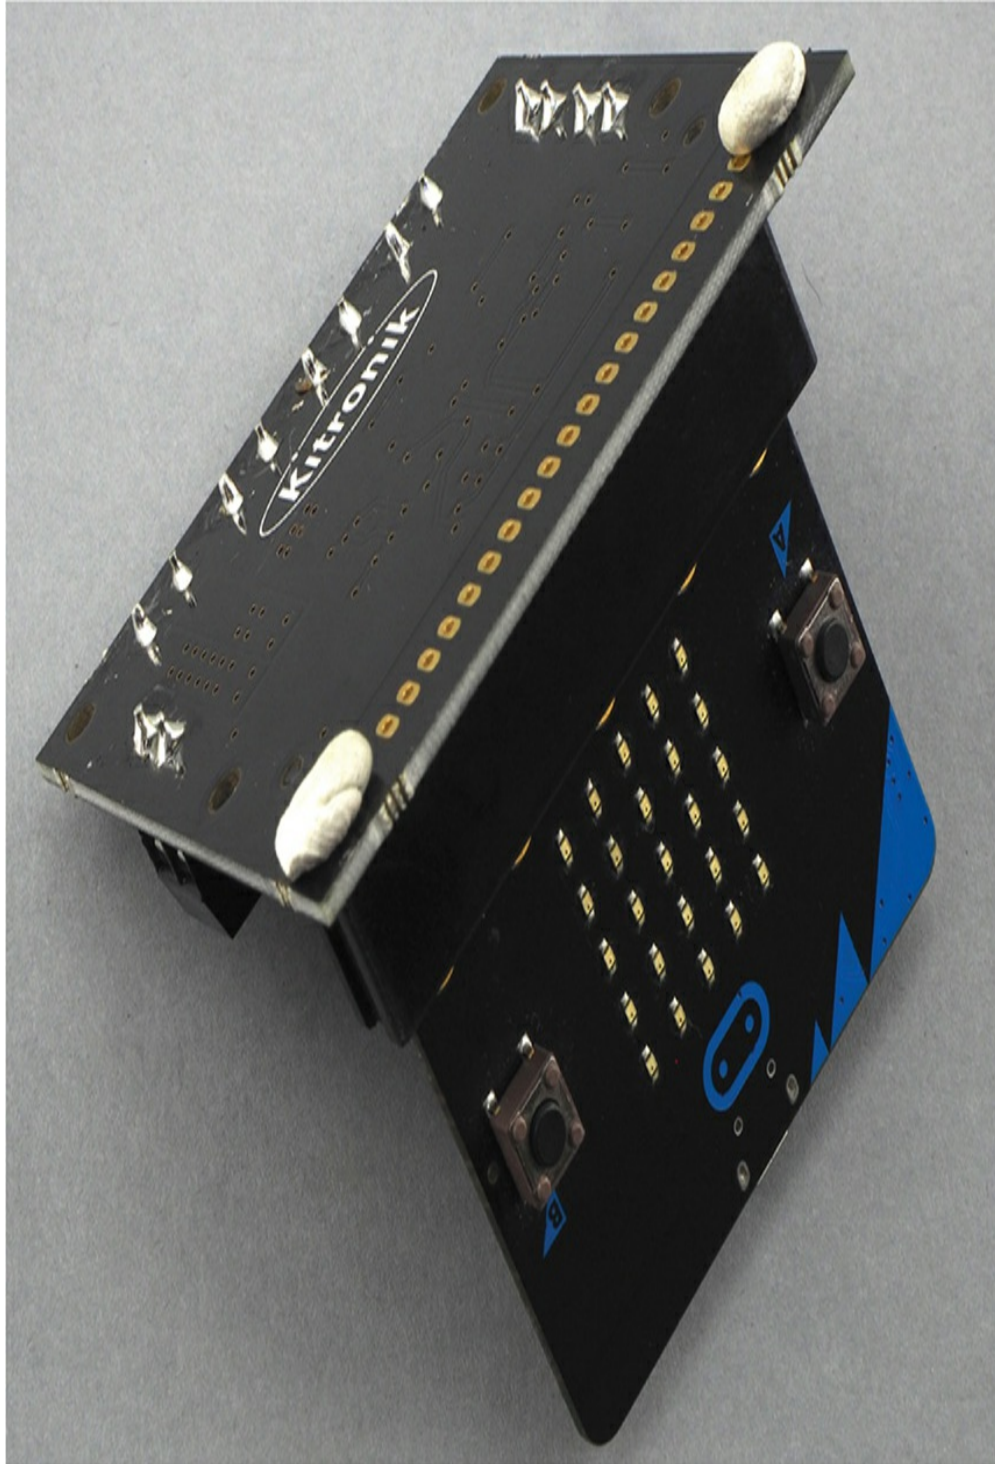

Figure 6-25: Attaching the micro:bit
4. Once you have the chassis securely assembled, attach the micro:bit to the Kitronik Motor Driver board with the micro:bit's screen facing outward, as shown in Figure 6-25. Line up the micro:bit's edge connector carefully with the socket on the Motor Controller and press it firmly into place. When your controller looks like Figure 6-25, stick it to the chassis using adhesive putty, also shown in Figure 6-25.